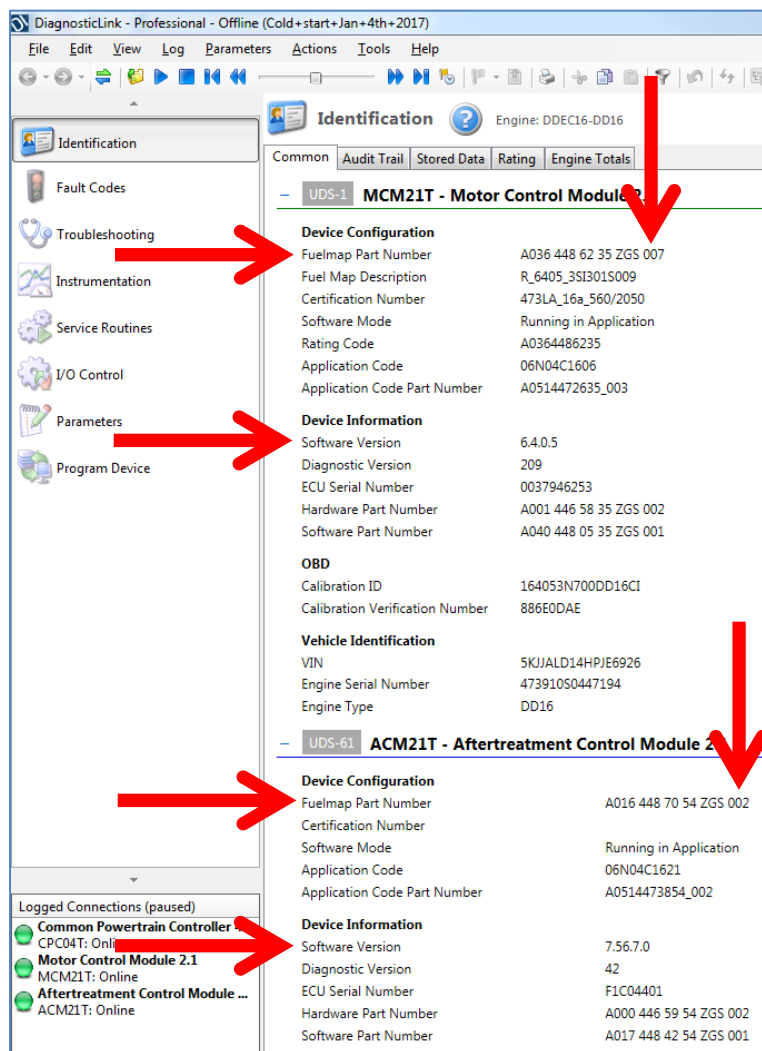

Figure 1 – DiagnosticLink® Identification Screen
5. On the Identification screen, check the current MCM and ACM software and fuel map part number ZGS level. Listed below are the **MINIMUM** levels required. See Figure 1 for an example of the Identification screen for the MCM and ACM.
6. Is the **software** level for all modules less than, equal to, or higher than the minimum software levels listed in step 5? All modules must meet the **MINIMUM** requirements. For example in Figure 1, MCM software 6.4.0.5 and ACM software 7.56.7.0 are both less than the minimum levels of 6.6.0.1 and 7.58.2.0 and thus would require programming regardless of fuel map part number ZGS level.